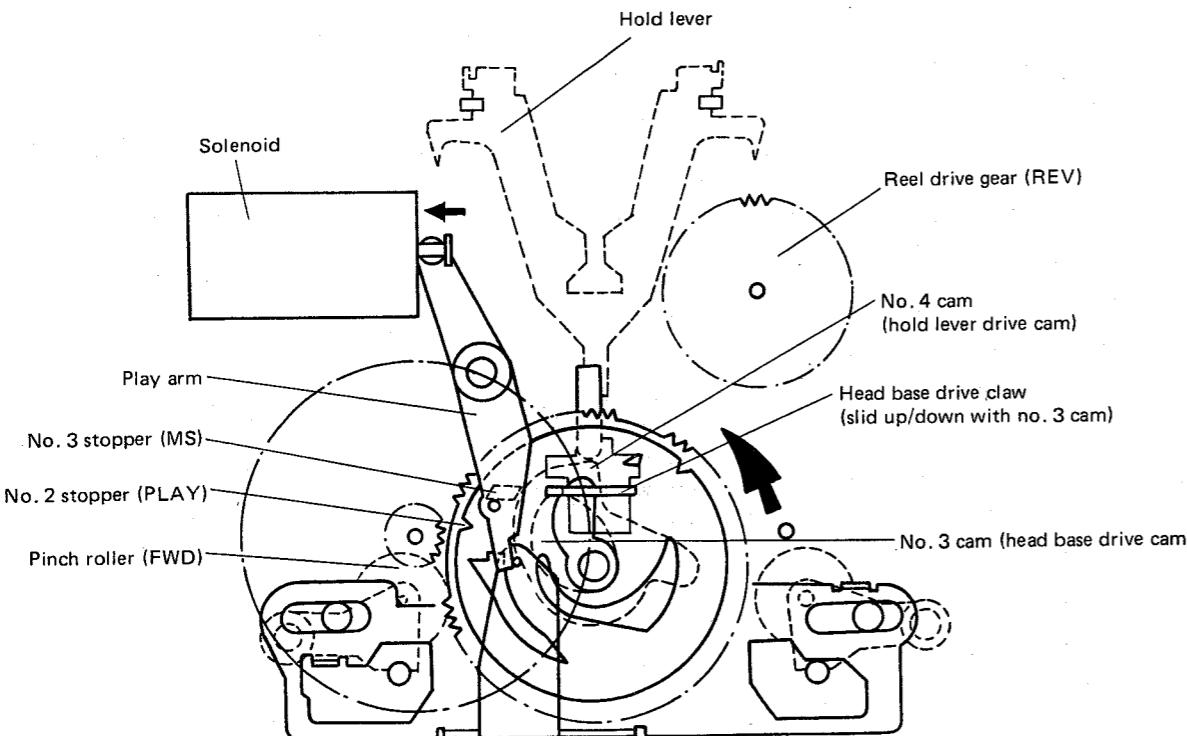

Fig. 1-5 Change from forward playback to music search mode
- (2) The cam gear rotation results in the head base being lowered to the MS position no. 3 cam.
- (3) After the cam gear is rotated through about 20° no. 3 cam gear stopper meets play arm pin, thereby stopping the cam gear to put the deck into music search mode (see Fig. 1-5). In this condition,
- (4) High speed rotation of the reel motor in the forward or reverse direction is commenced approximately 60ms after the solenoid is activated, and as a result of lateral oscillating action of the F/R gear the reel drive gear (FWD, REV) is engaged to commence take-up of the tape.